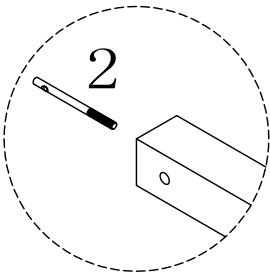

Figure 4
2. Screw the bolt (2) to the extenders as shown in (Figure 4).